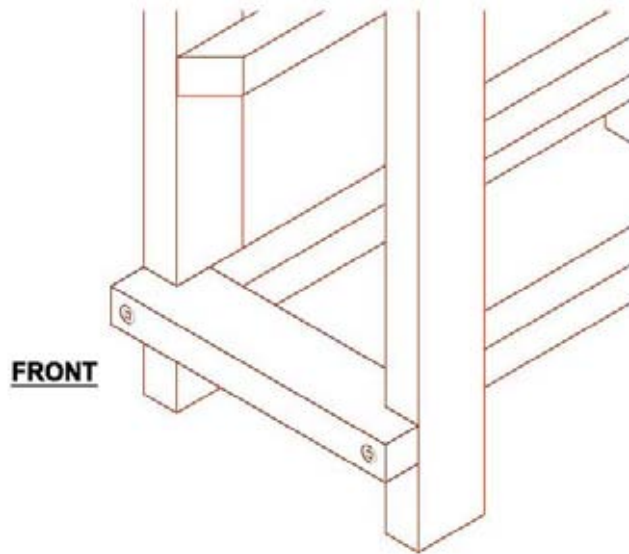

**Figure 1**
2. Set your ladder with the back on the floor (angled slats facing up). Then insert the spacer bar by placing the two rabbets (or slots), at each end of the spacer bar, over the ladder upright at the spacer slat location (**Figure 1**).